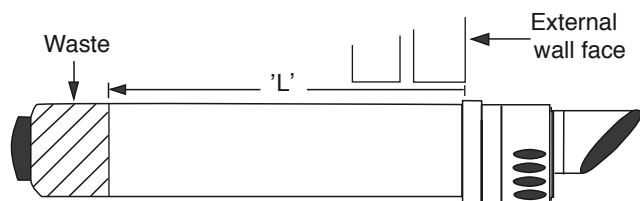

Figure 15
10.8 On installing the flue, determine the required length of the **outer air duct** by measuring the distance 'L' (*figure 15*) from the face of the external wall to the back of boiler's elbow connecting collar. The measurement for the **inner flue duct** will be 'L' + 20mm